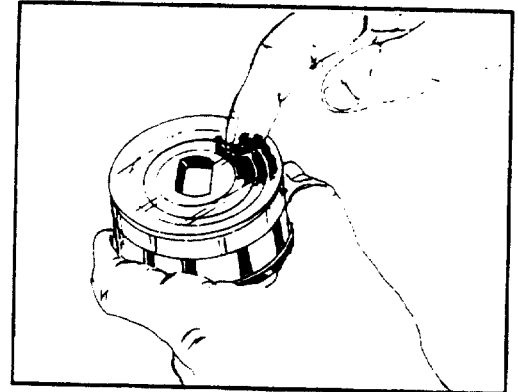

FIGURE 72.
- 25. Inspect the exposed face of the drive plate (26) making sure it is clean and lint free. Apply a small amount of clean grease on the drive plate. Place the "metering package," drive plate side first, into the metering ring (17). Revolve the input shaft (33) or metering package until the hole in the drive plate (26) engages the end of the input shaft and the drive plate is seated on the thrust bearing (28). When properly seated, the metering package will be below the surface of the metering ring. See figures 72 and 73.